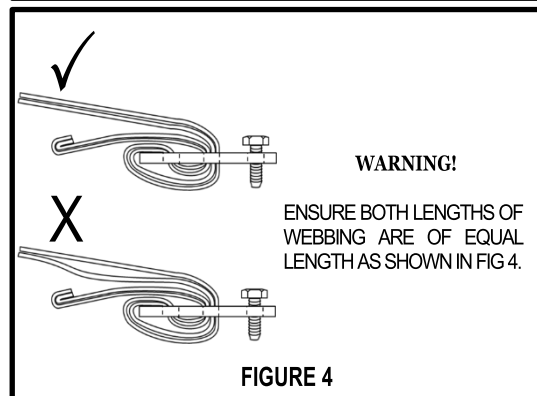

FIGURE 4
4. Remove slack in the webbing at the adjuster before fitting to vehicle as shown in figure 4.
6. Remove slack in the webbing at the adjuster before fitting to vehicle as shown in figure 4.